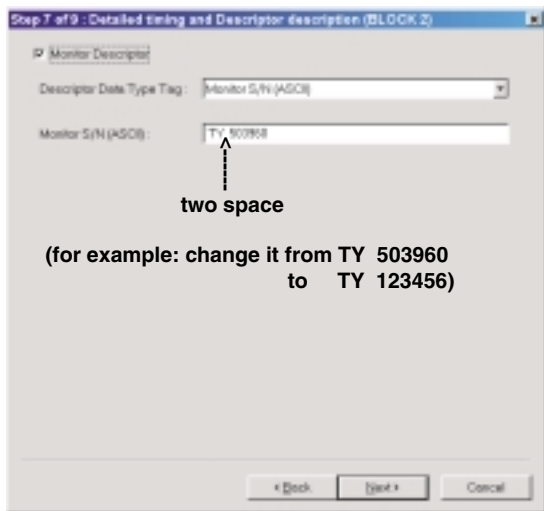

Fig. 15
- 1. Click Next till the Step 7 of 9 window appears as shown in Fig. 15.